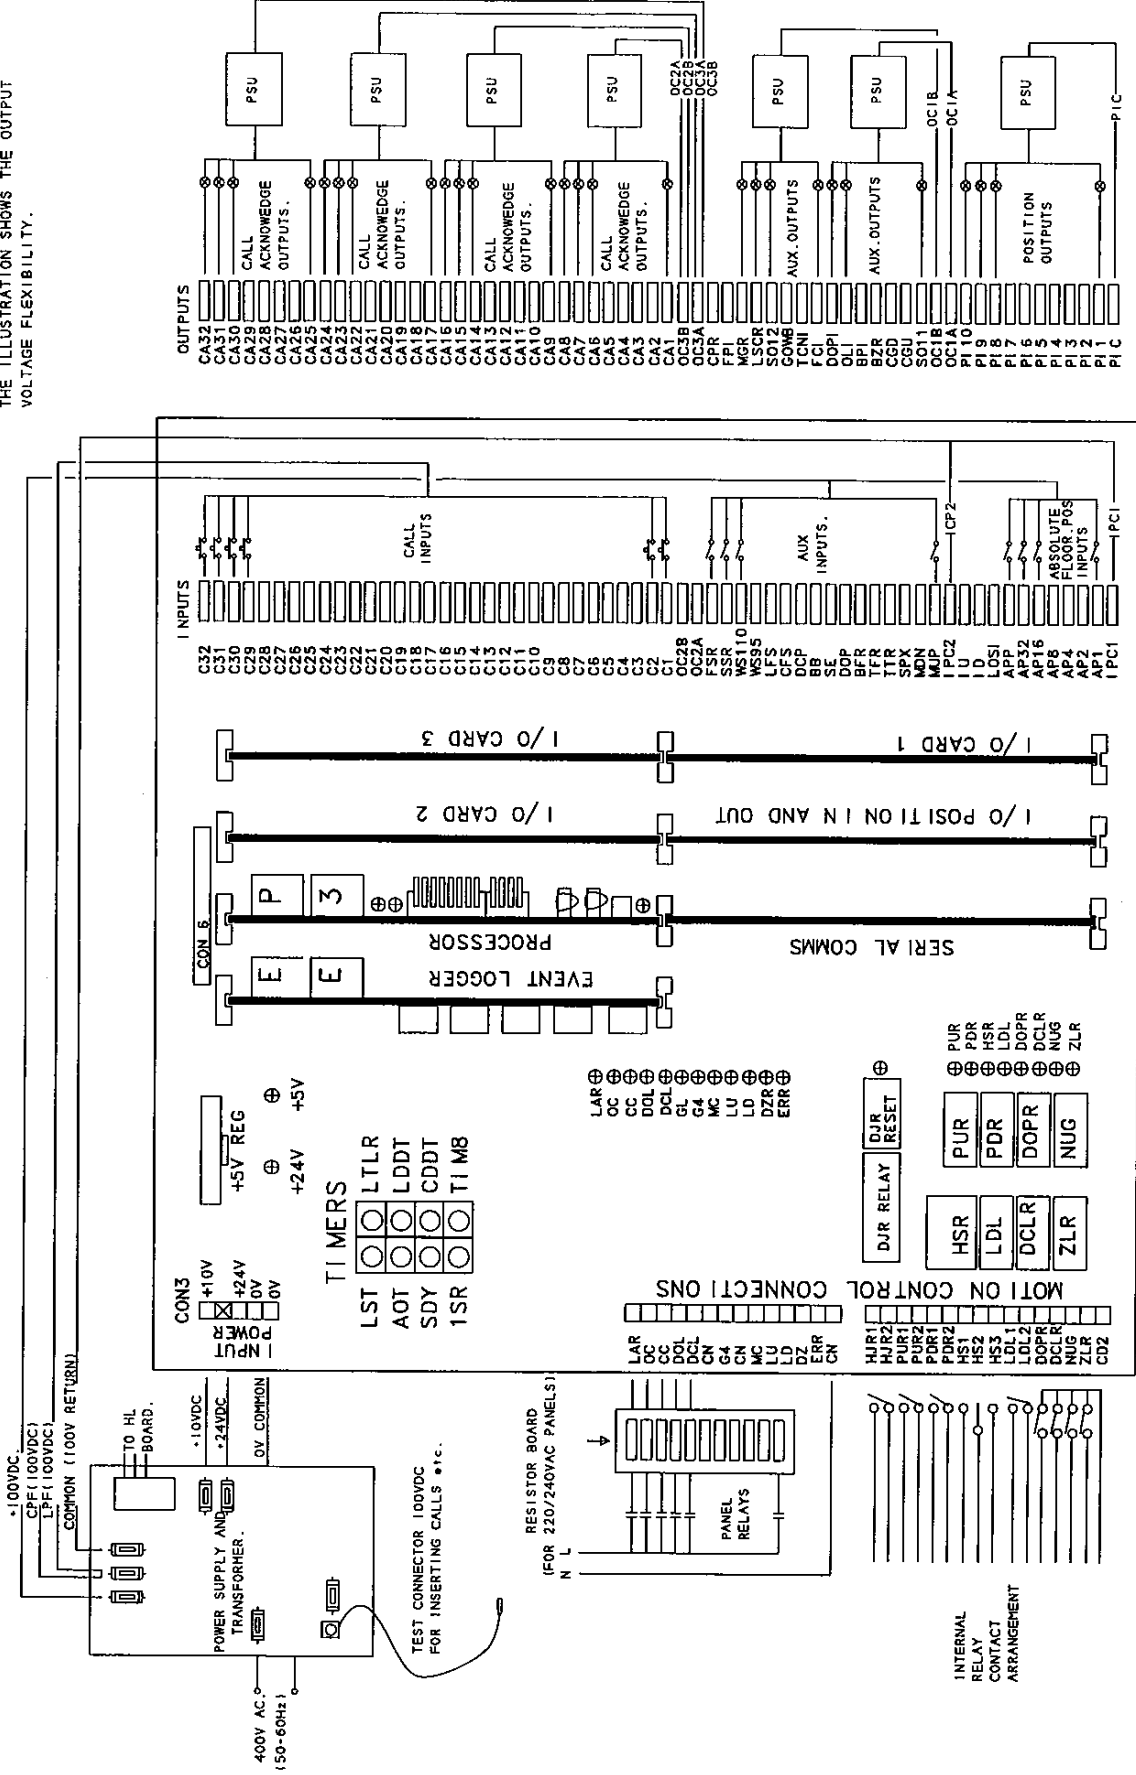

FIG 1.1 GENERAL WIRING SCHEMATIC (NON SPECIFIC)
1.3 OVERALL SYSTEM DESCRIPTION (FIG 1.1)